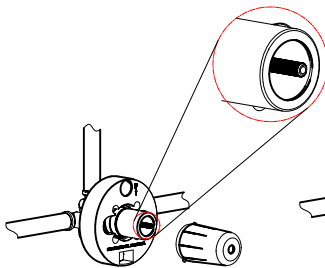

Fig .3
- Remove the Tub&Shower plastic cap and cut the extension, the length will be 0.6"-0.65" .(see Fig. 3 ) .